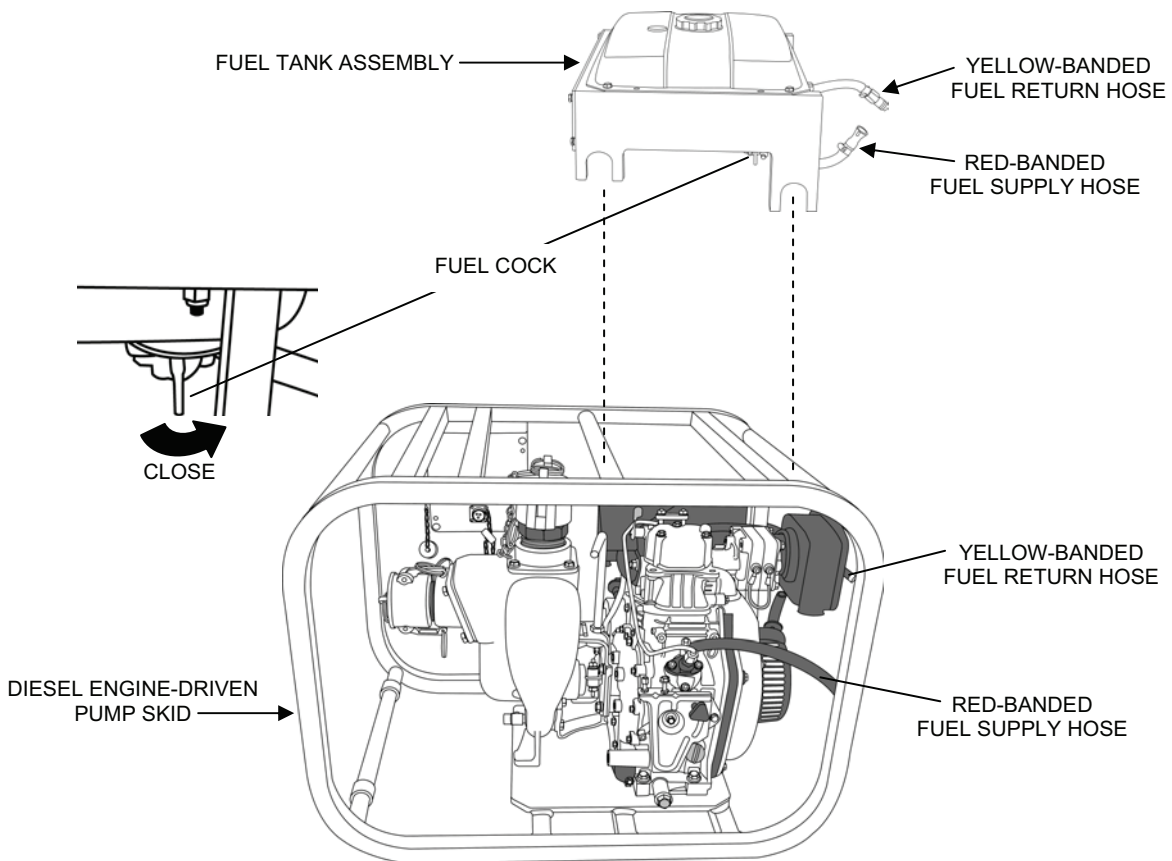

Figure 12. Raw Water Pump P-1 Skid Fuel Tank Assembly Removal.
1. (P-1 Pump Skid only) Remove the fuel tank assembly from the skid as follows (see Figure 12):